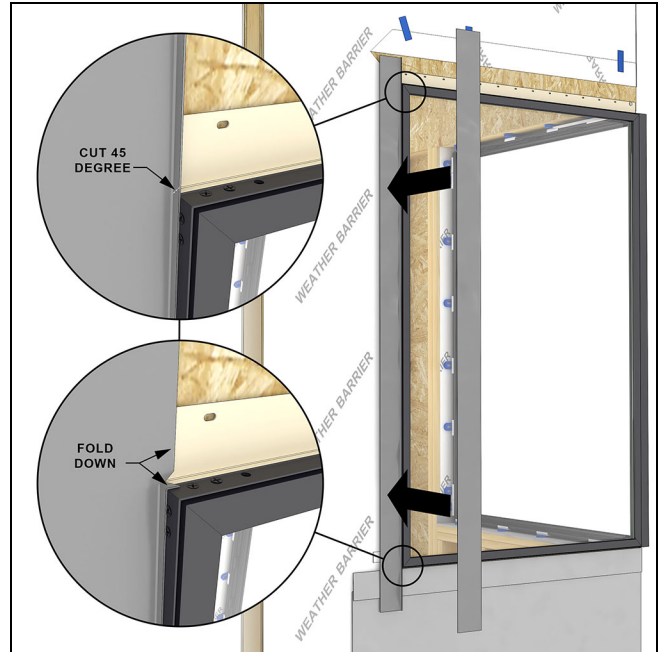

Figure 67
2. Lap vertical strips of self adhered flashing membrane onto the unit or casing and out over the air barrier. Make small cuts at the head jamb to allow the membrane to fold back onto the sheathing. See Figure 67.